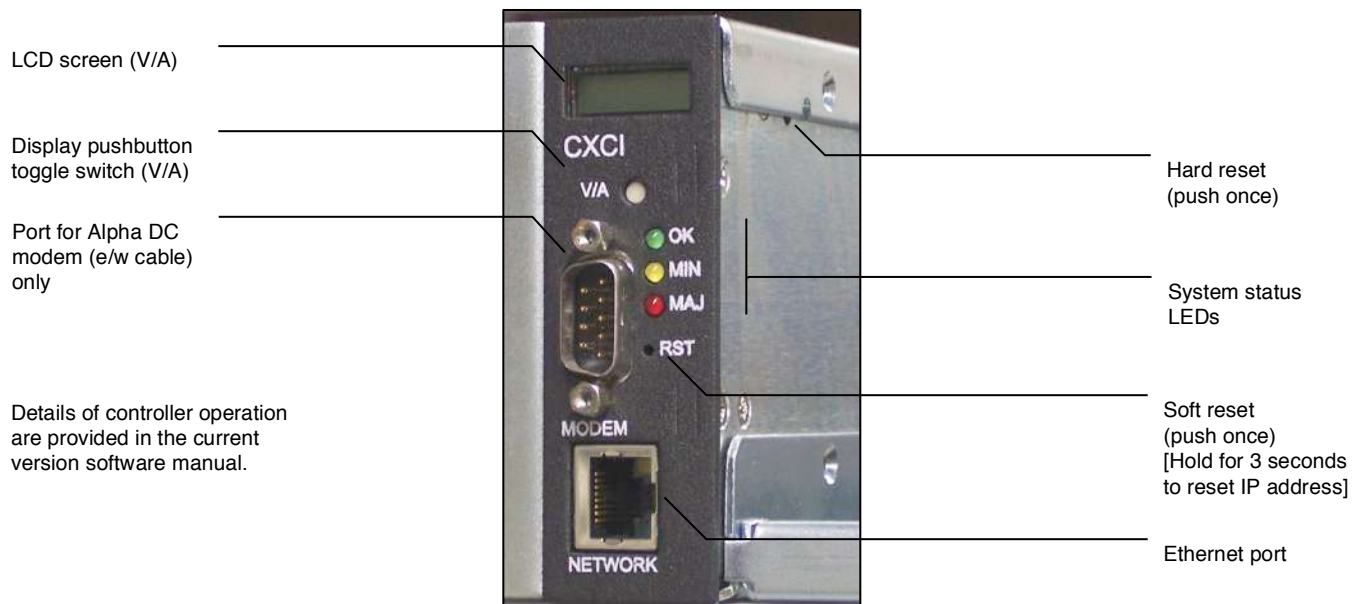
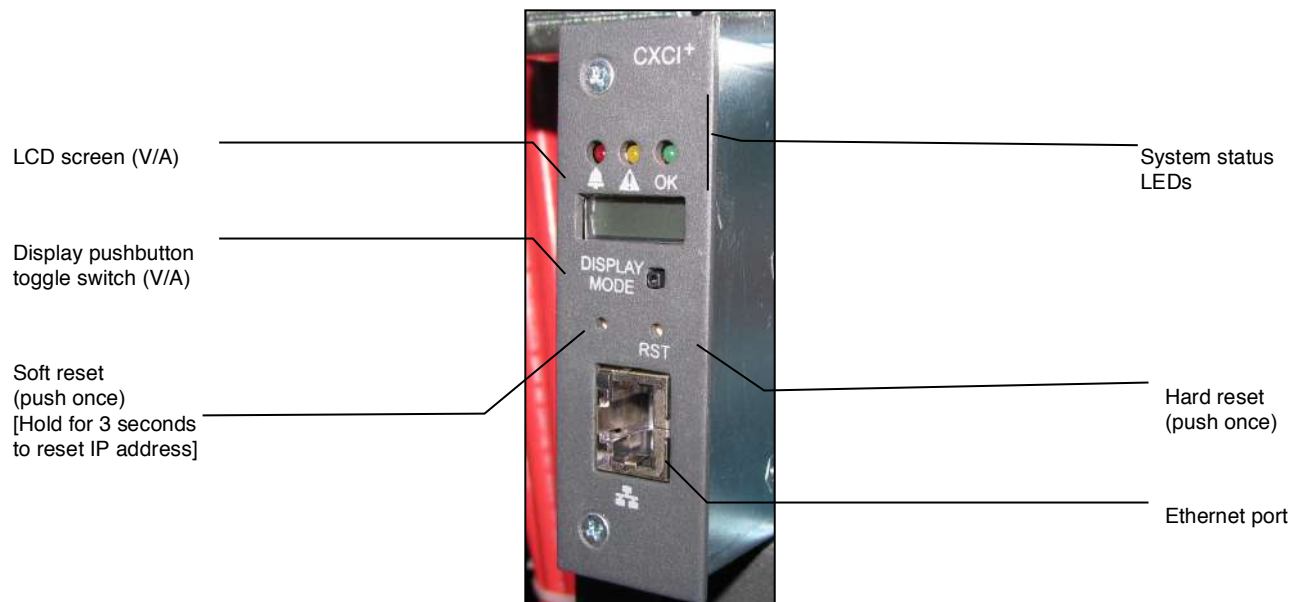

Figure 2—Cordex CXCI model system controller front panel
Figure 3—Cordex CXCI+ model system controller front panel
The CXCI (Figure 2) and CXCI+ (Figure 3) controllers have a 4-digit display, for monitoring system voltage (V) and current (A). A pushbutton toggle switch allows the user to alternate the display reading.
The Modem port (front panel DB-9 connector, Figure 2) is designed for CXCI connection to the Alpha Cordex DC Modem #018-585-20 (complete with Alpha cable).
The Ethernet port is designed for CXCI/ CXCI+ connection to a user supplied network (TCP/IP secured by user) via a front panel RJ-45 jack (Figure 3 and Figure 3) and a standard network cable.